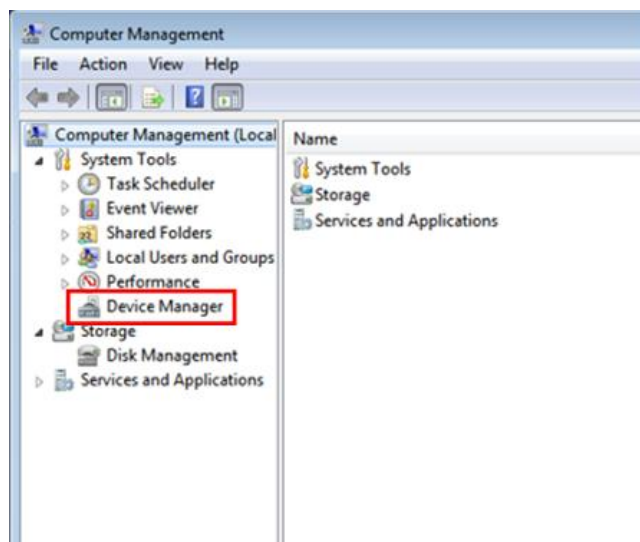

Fig.3.33
3) Select 'Device Manager' on the left pane (Fig.3.33).